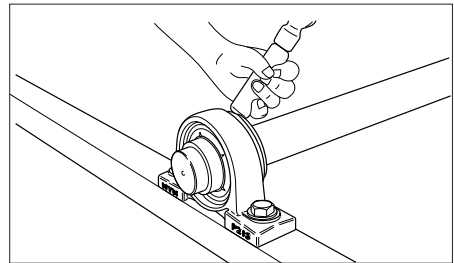

Fig.8.14
- 4) Fit the cover that is fitted over the shaft, into the spigot of the bearing housing. When fitting the cover, NEVER directly hit it with a steel hammer. First, place a block, made of synthetic resin or wood, over the cover. Then, from 45° direction, tap it with a hammer around the circumference of the cover to exert a uniform impact on the cover to fit it into the groove on the bearing housing (**Fig.8.14**).